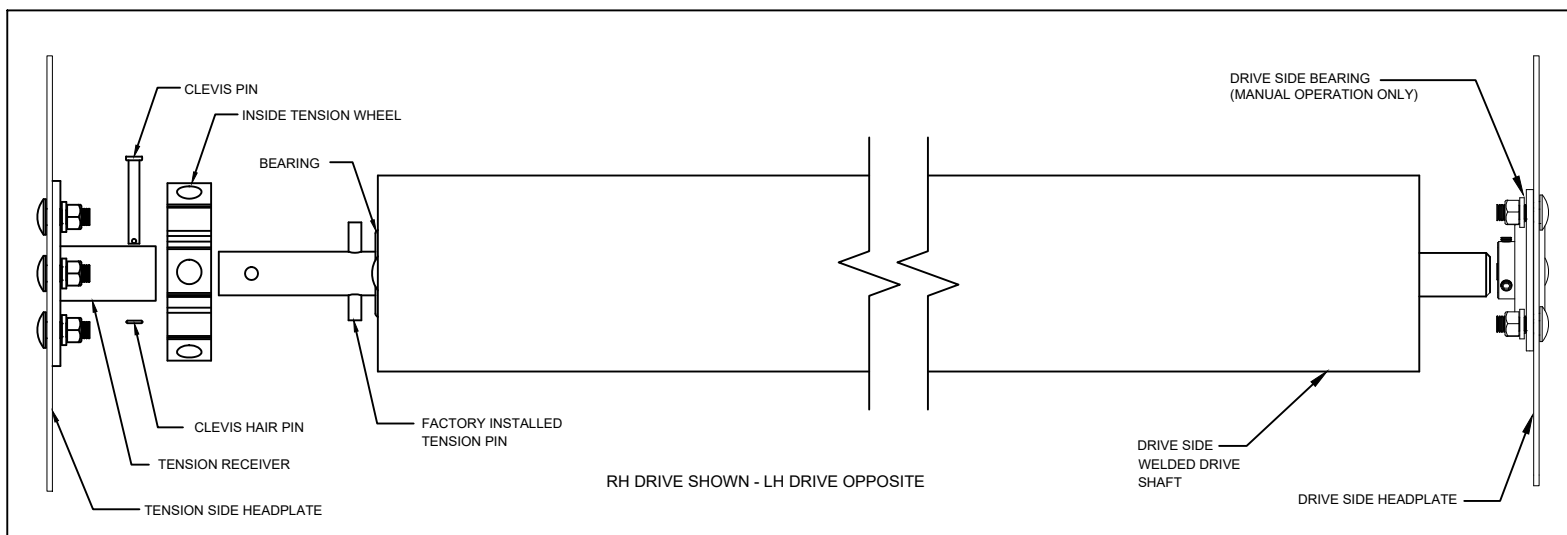

FIGURE 9
- Install tension wheel and tension headplate. Tension detail shown in Figure 9.
- Install drive side headplate as shown in Figure 9 for manual operation.